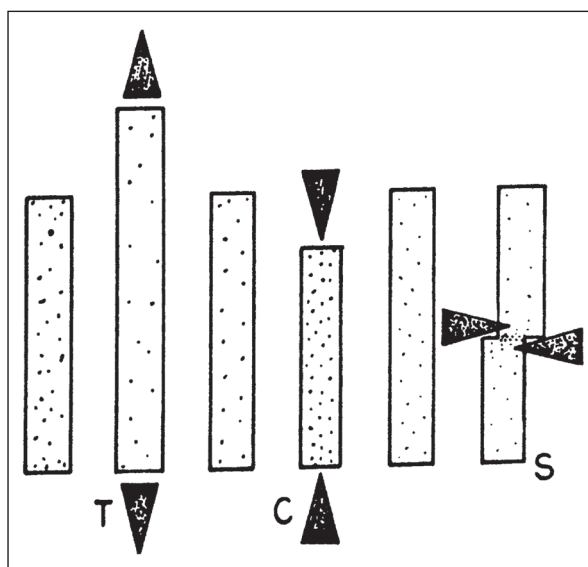

Figure 4: The three principal strains.
1) *Tension Strain*: Elongation of an object to which tension stress is applied (Figure 4).